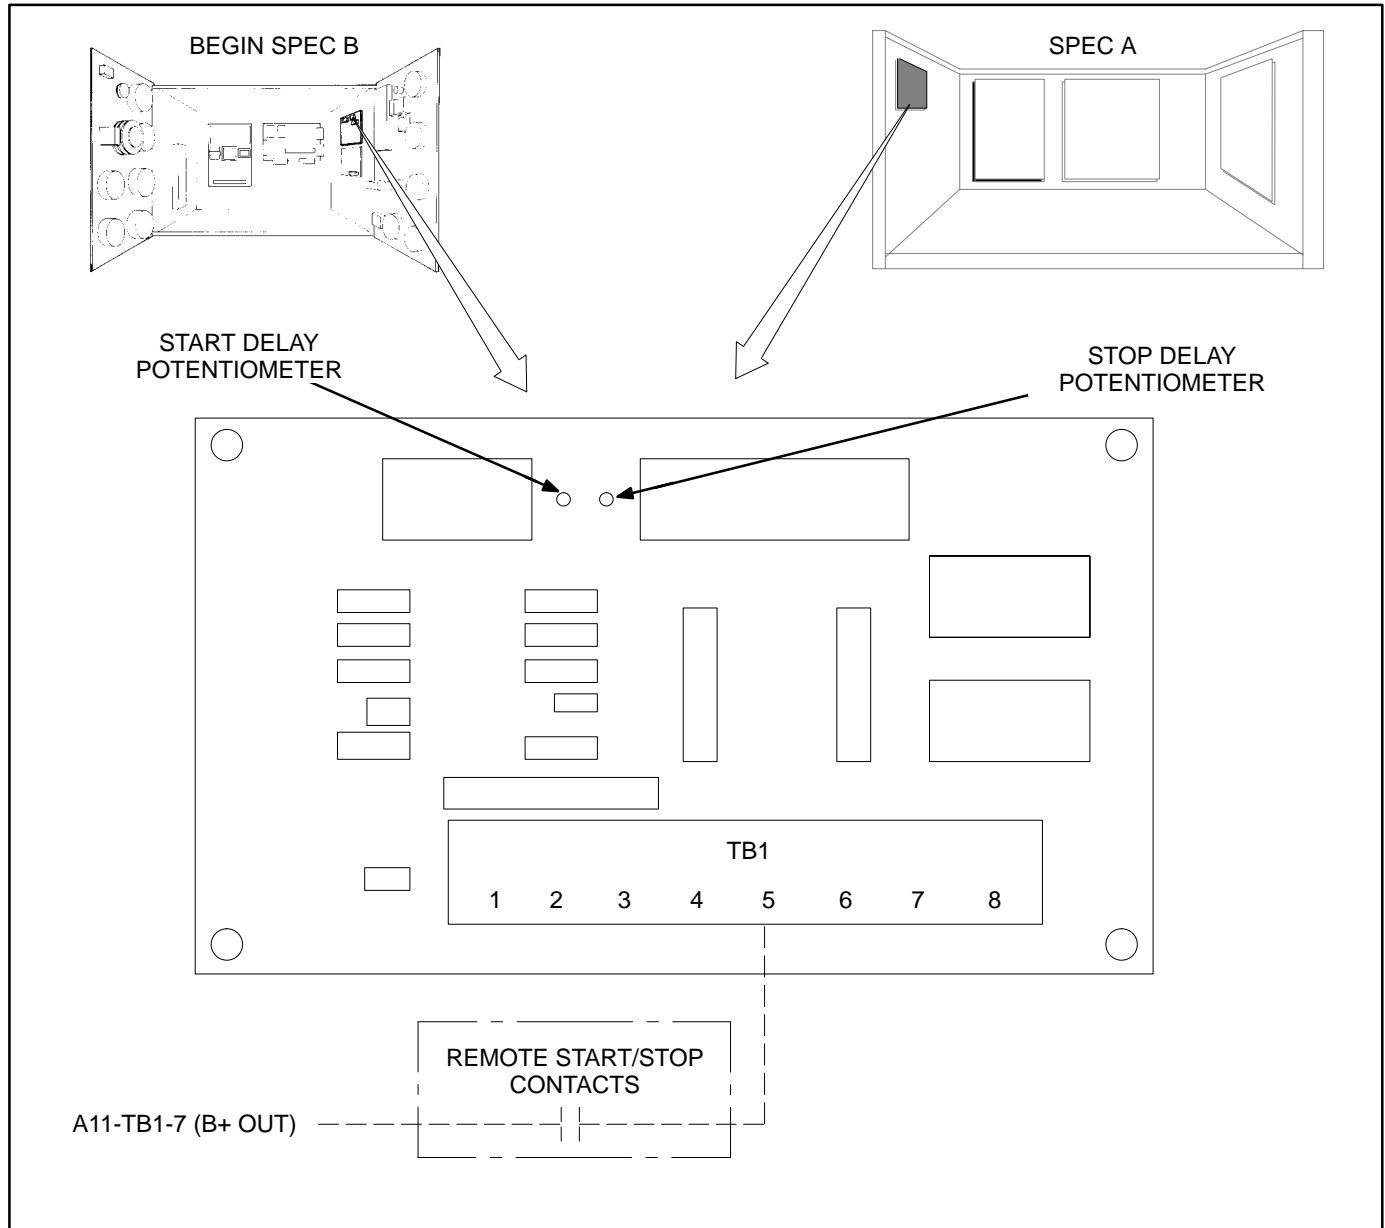

FIGURE 5-6. START-STOP TIME DELAY MODULE ADJUSTMENTS AND CONNECTIONS
The generator set control box has connection points for remote control and annunciation. These connection points are on the engine control monitor (ECM), Figure 5-4; optional auxiliary relay board (ARB), Figure 5-5; and start-stop time delay module, Figure 5-6.
**Start Delay:** Start delay is adjustable from 0.5 to 15 seconds. The intake manifold heater(s) are energized during the start delay period for easier starting. Turn the potentiometer clockwise to increase delay and counterclockwise to decrease delay. See Figure 5-6.
5 Preheat time is too short or the preheat circuit is faulty.	A. Increase the preheat time (up to 15 seconds). See Figure 5-6, Page 5-9. B. Service the glow plug(s), glow plug relay K15, preheat switch S15 and connected wiring as necessary.